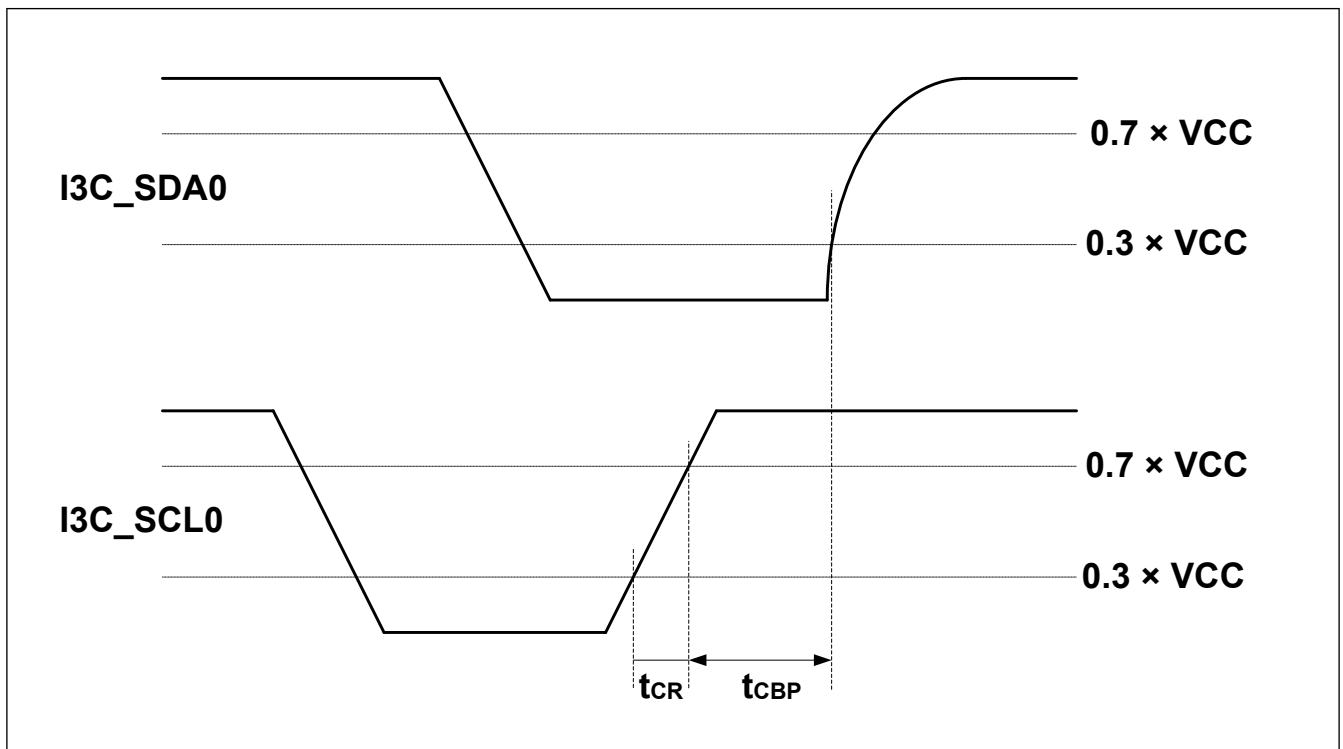

Figure 2.77 I3C STOP condition Timing
- Note 2. In a Mixed Bus, HDR-TSL shall respect the maximum $t_{DIG_H_MIXED}$ shown in Figure 2.77.